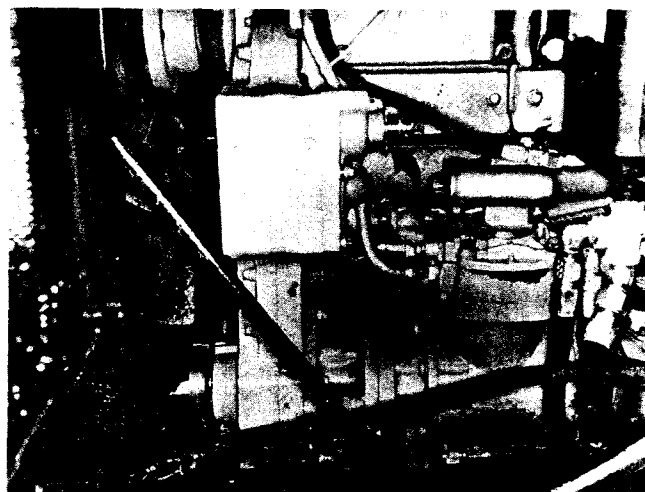

Fig. 2-51, (K11919). Engine barring arrangement — KT(A)-1150
**Note:** Do not use fan to rotate engine. Remove shaft retainer key. Fig. 2-51, and press shaft inward until barring gear engages drive gear; then advance. After adjustments are completed retract shaft and install retainer key into safety lock groove.